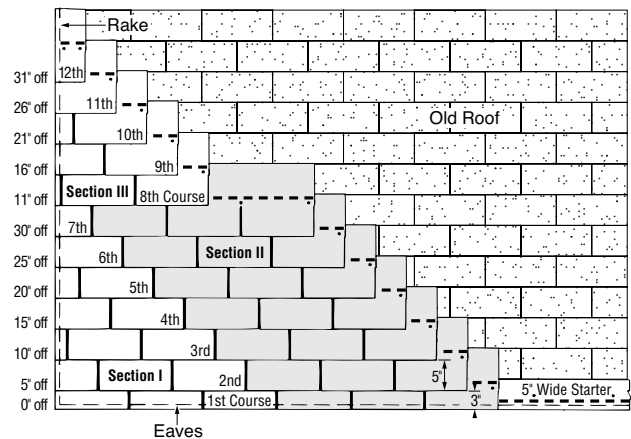

Figure 10-16: Five Off, Twelve Up, Nested.
**1st Course:** The first course is made of 10" by 36" shingle strips made by cutting 2" off the bottom of the tabs of regular shingles. Align the top edge of the strips so they butt up against the tabs of the shingles in the old third course (Figure 10-16).
1. Begin the second course by cutting 5" off the left end of a shingle and aligning the top edge with the butt edge of the shingle in the old fourth course (Figure 10-16).
1. Begin the eighth course by cutting 11" off the left end of a shingle and applying the 25" piece over the seventh course shingle, aligned with the left edge of the seventh course (Figure 10-16).